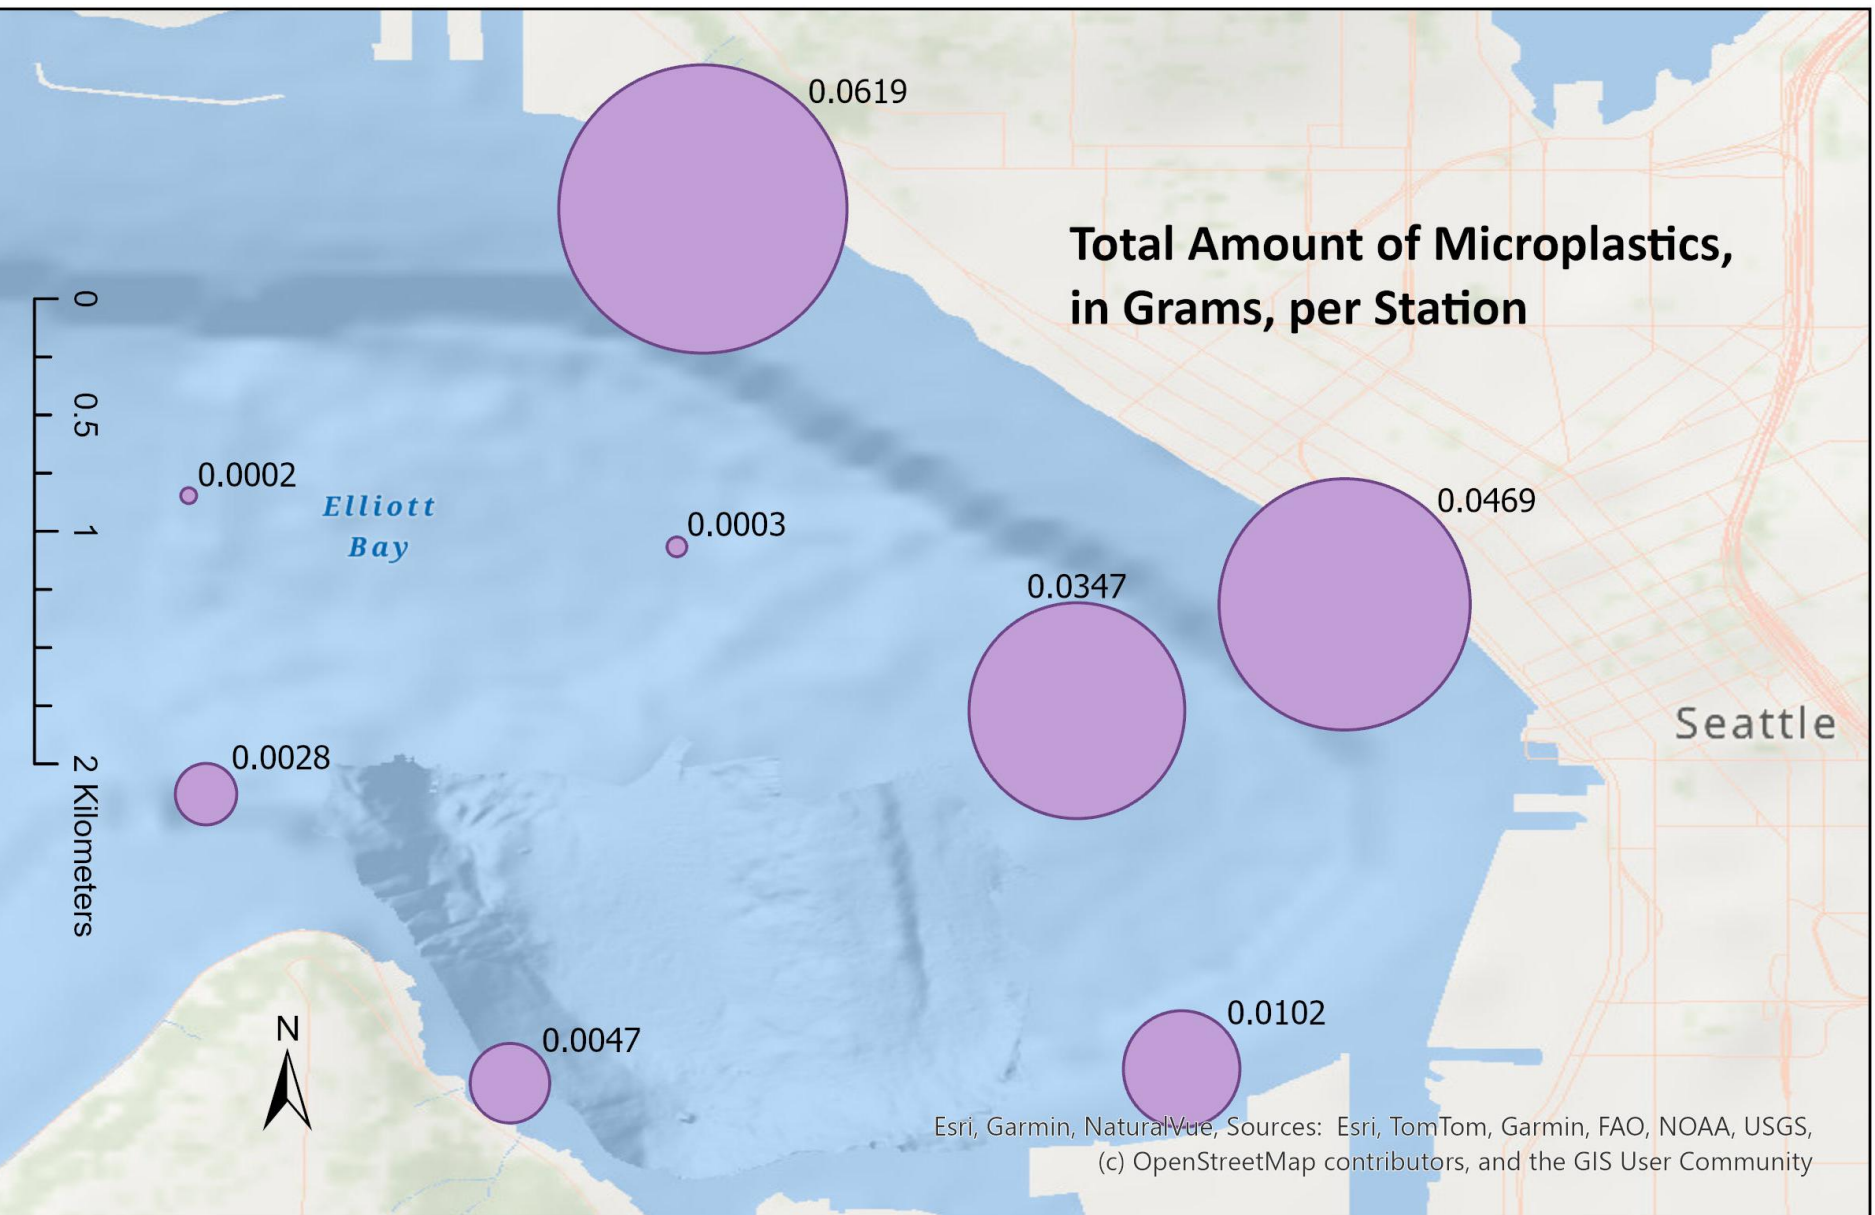

Figure 5. Total microplastic mass in grams related to sampling station location.
- The microplastic per meter squared related to median grain size had an R^2 value of 0.8239 which indicates a strong linear relationship (Figure 5.)